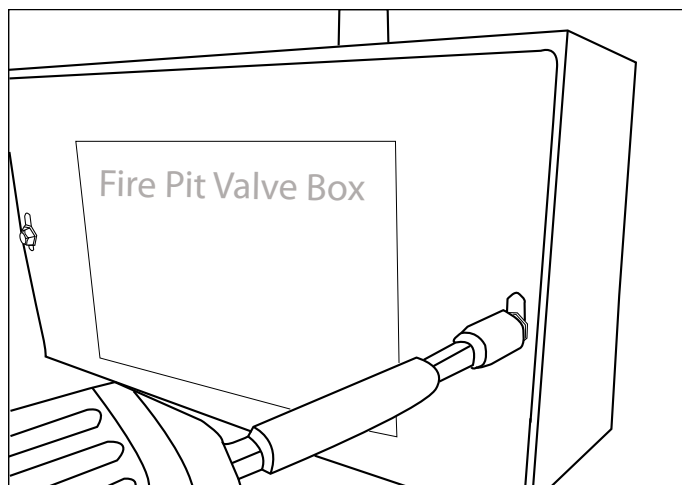

Fig. 18 Removing the cover from metal box.
1. Remove the two screws securing the cover on the control box (See Fig. 18). The cover will slide down exposing the gas valve and control module.